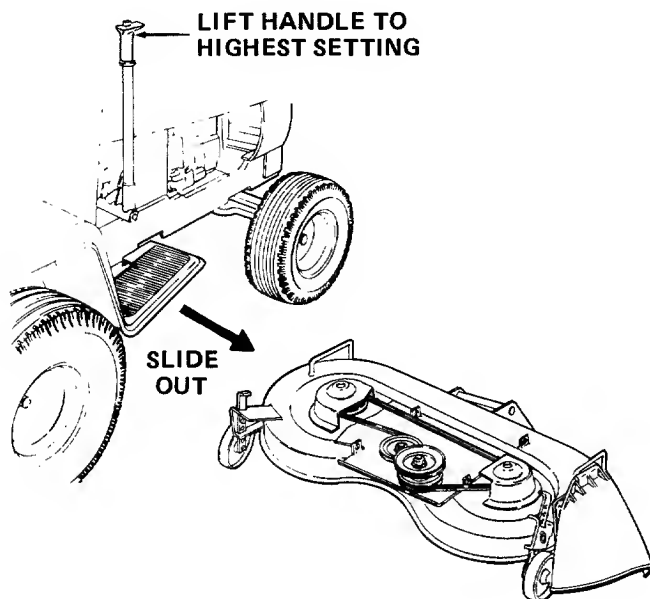

Figure 41
8. Raise the lift handle to the highest setting and slide the deck out from under the tractor. (Refer to Figure 41.)